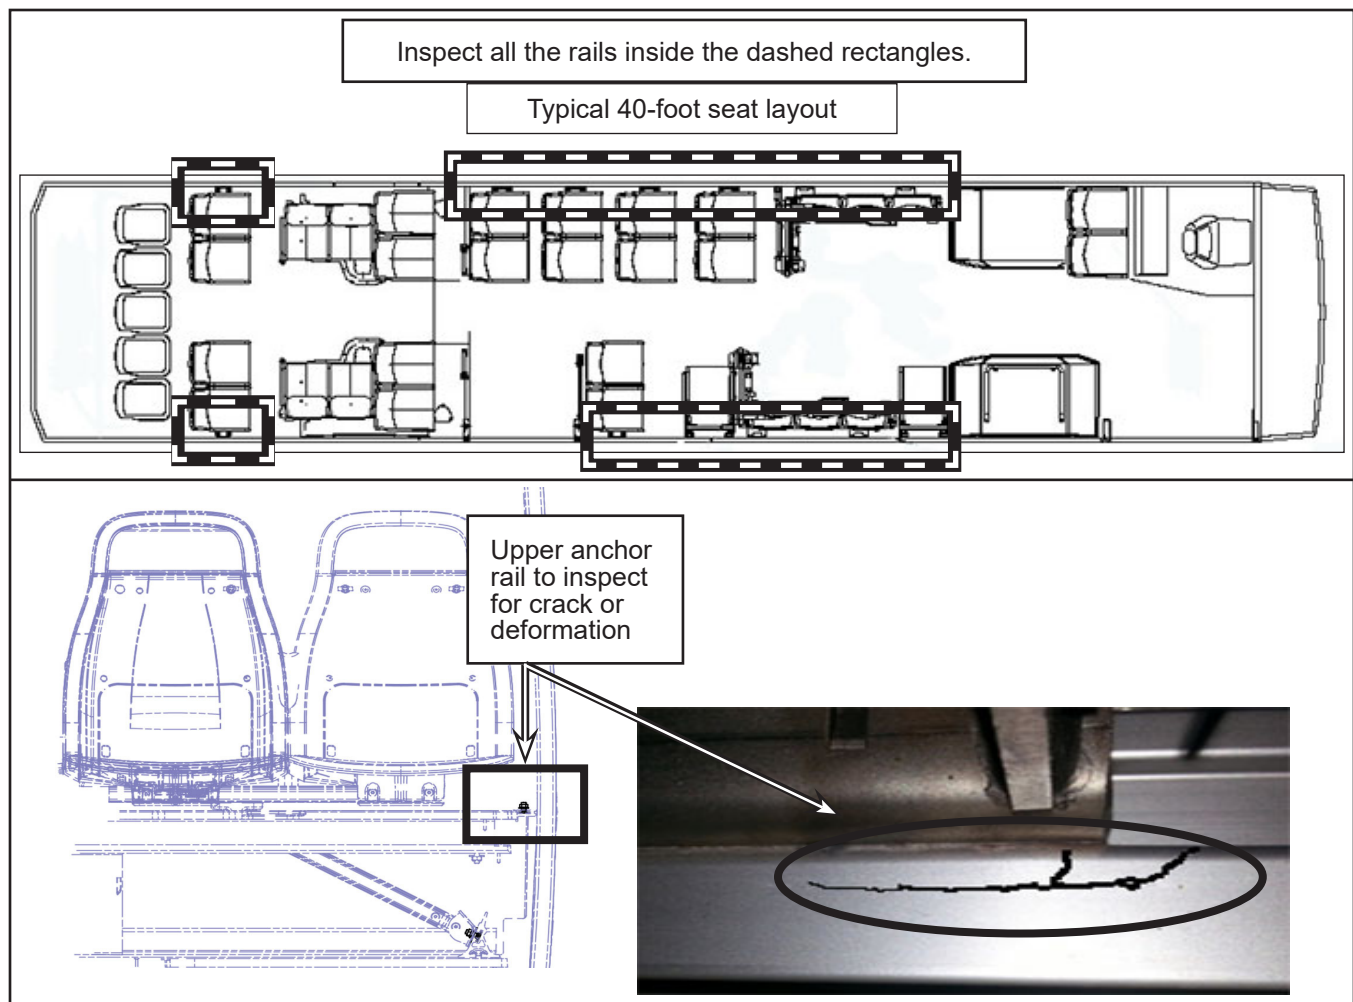

Figure 1 - Inspection of Seats' Upper Rail
- 1.1. Visually inspect all the upper anchor rails located between the front wheelhouses and the rear of the vehicle for any cracks and/or deformities. See Figure 1 for 60 foot vehicle inspect the front and rear section.